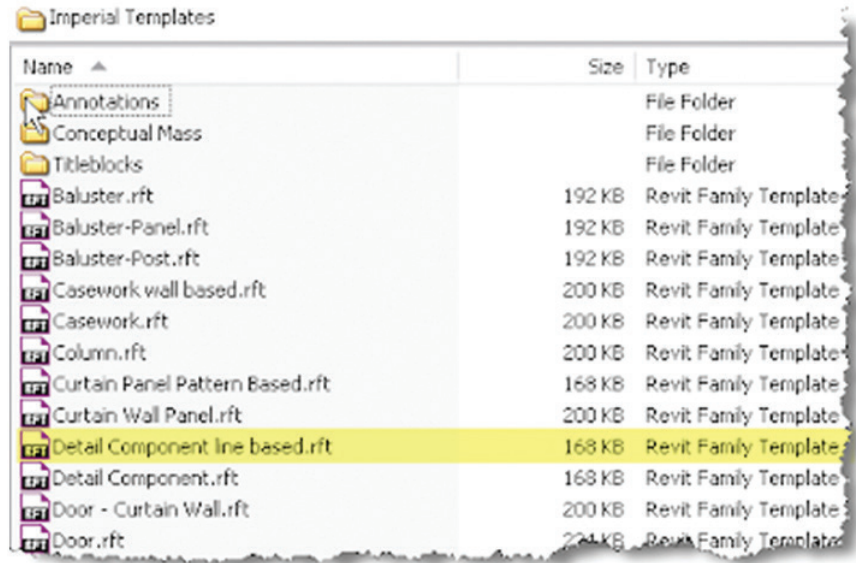

Figure 2 (Revit circa 1842)
As described above, instead of using lines and pointing to them with not associative text, we will use “Line Based Detail Components” or “Detail Component line based” (Figure 2), as the family template is so named (depending on what year you read this ;).
2. Select the Detail Component line based template (Figure 2).